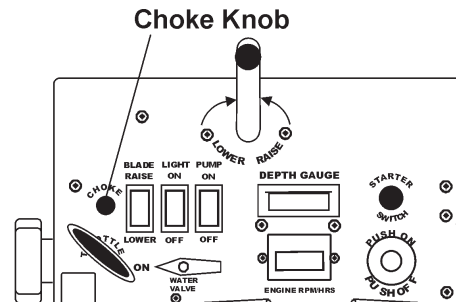

Figure 21. Choke Knob
5. Pull the **Choke Knob** (Figure 21) up into the "**OPEN**" position